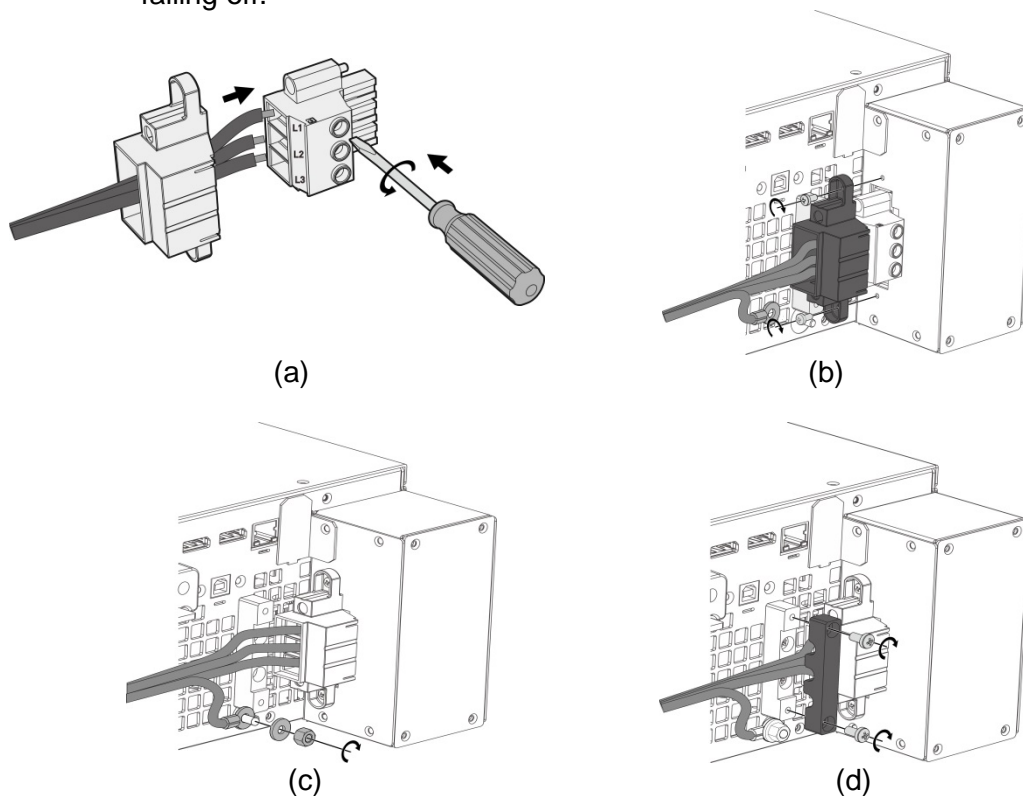

Figure 2-2
- (1) The input power connector is located at the right of rear panel.
- (2) The power line must be rated at least 105°C
- (3) The power cable width must be 8AWG at least.
- (4) Assembly ► see Figure 2-2 (a)~(d) and execute the following steps: